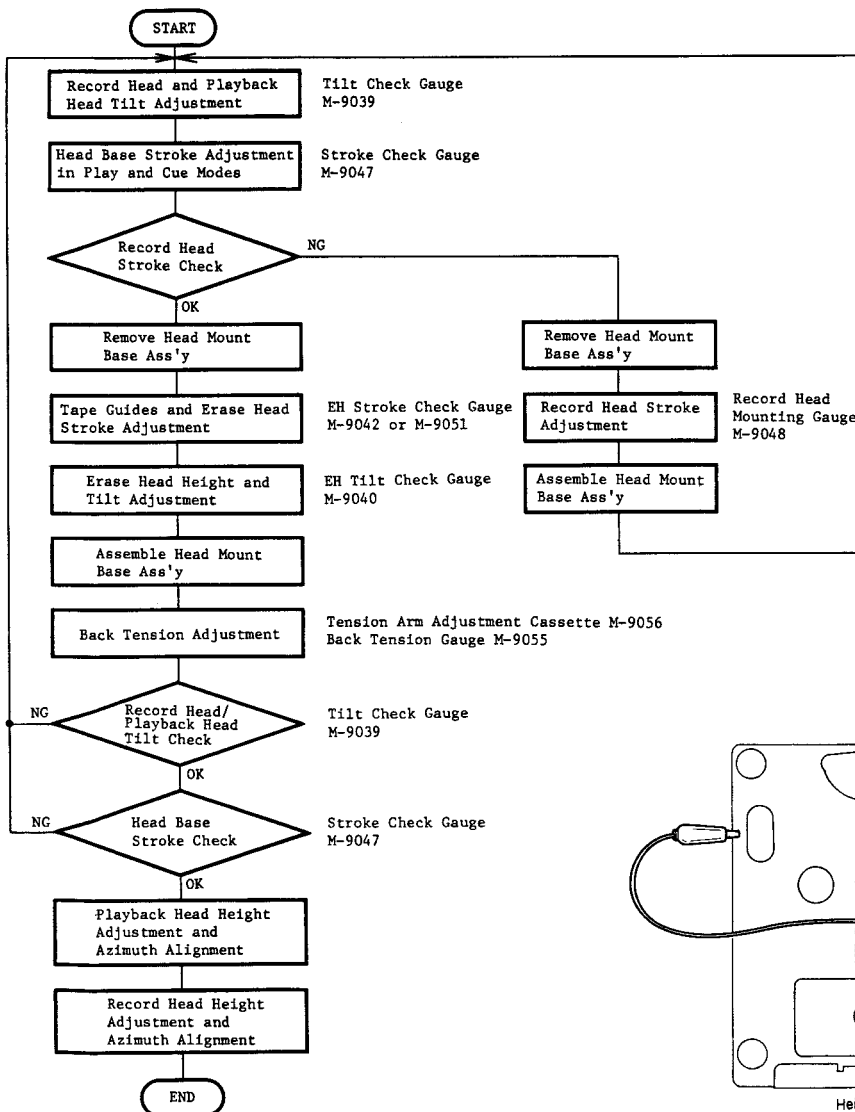

Fig. 4.4
Note: On items 4.3–4.9, please refer to Fig. 4.4 flow chart.